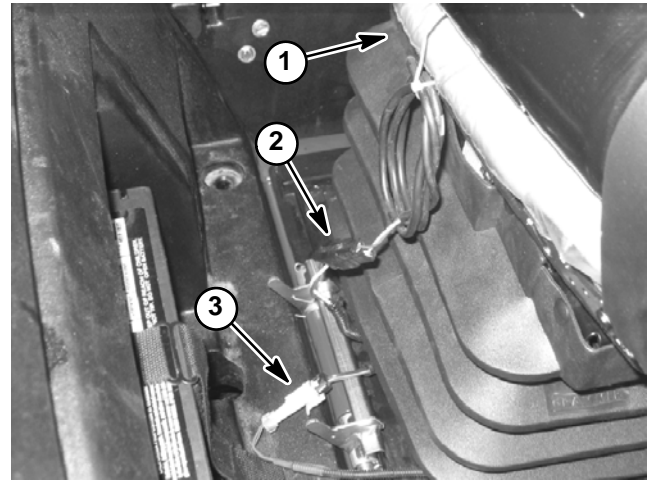

Figure 10
4. Make sure that seat electrical connectors are secured to machine wire harness (Fig. 10).